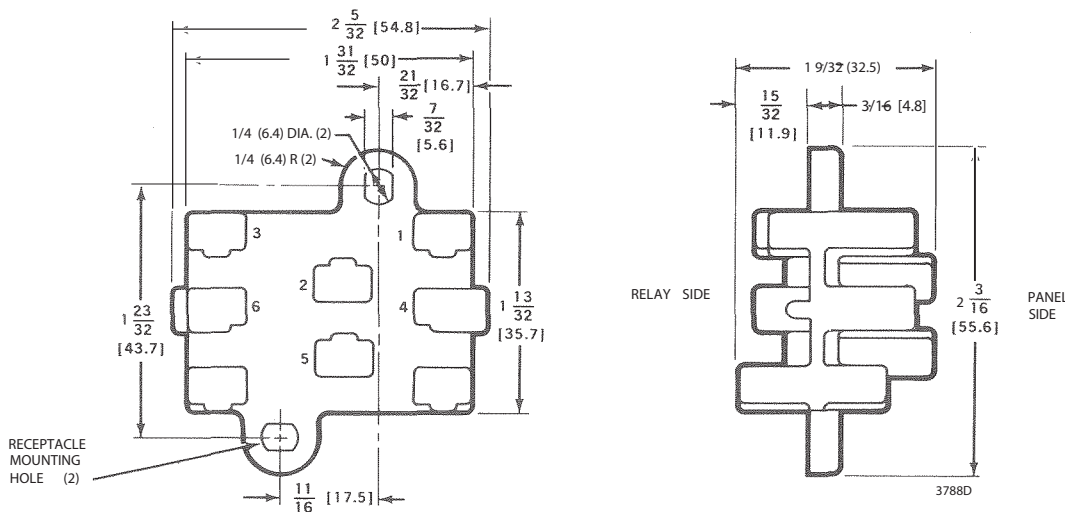

Fig. 2. Dimensions of Wiring Receptacle
2. 4074BVJ Receptacle with 8 color-coded plug-in leadwires and retaining bail, for panel mounting applications; see Fig. 2.